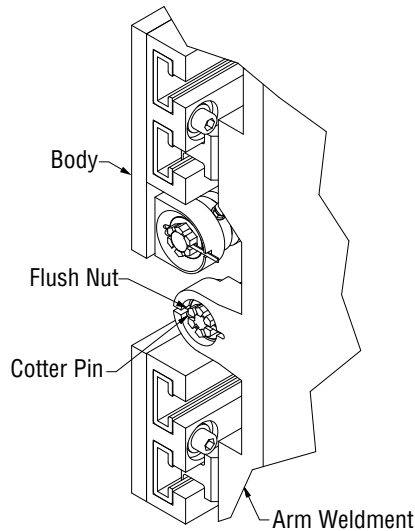

Figure 5-3, Arm
1. Extend the arms out past the body. Remove the cotter pin retaining the flush nut. Remove the flush nut. (Figure 5-3)